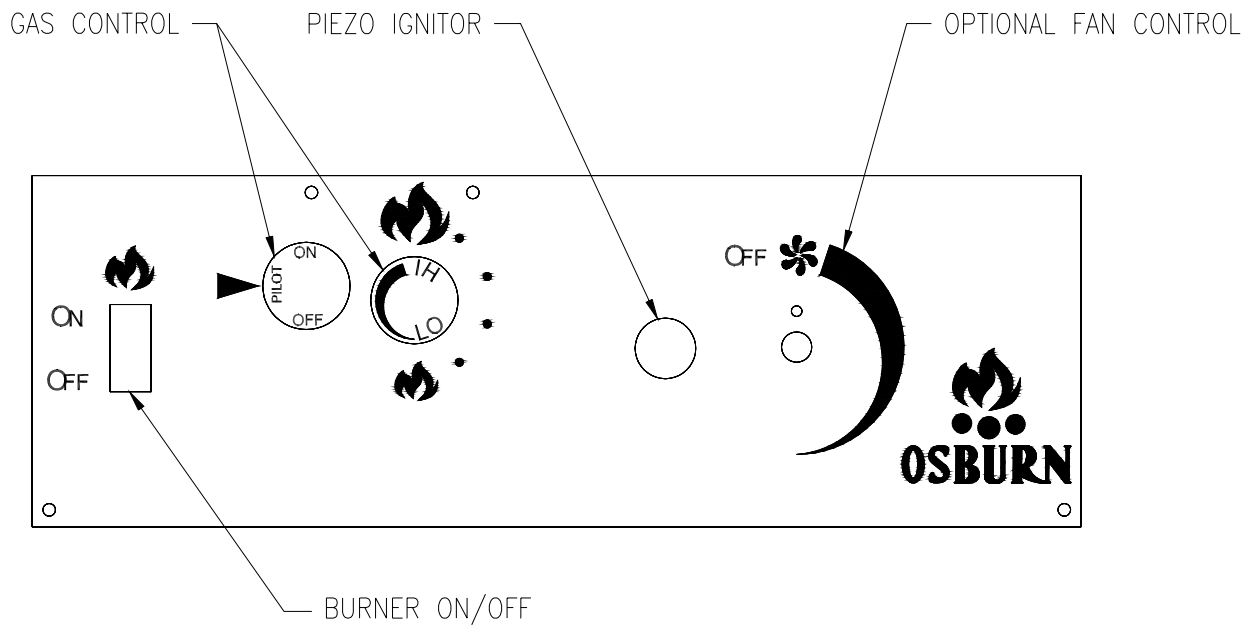

Figure 2.1 – Control Panel Features
5. Push in the gas control knob slightly and turn counter-clockwise to the **"OFF"** position (Figure 2.1).
The valve supplied with the appliance has a **Hi/LO** knob, which may be used to adjust the heat output and flame height. The **Hi/LO** knob may be accessed by opening the lower grilles and rotating the adjustment knob between its' two extremes (see Figure 2.1).